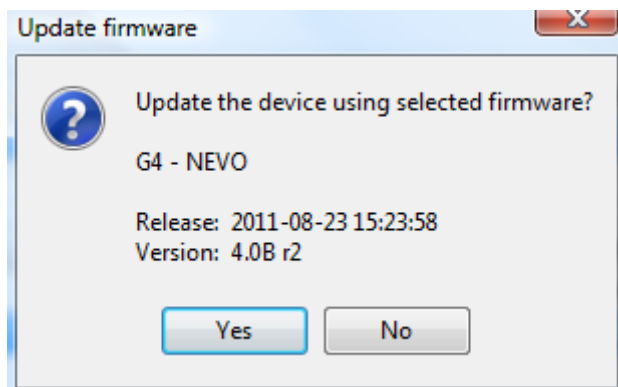

Fig. 3.7 Starting update confirmation window.
- Choose update file and press “Update” button. First the window with question about saving current settings to a file will appear. After saving or choosing not to save the update confirmation window will appear (Fig. 3.7). To start actualization process press “Yes”.